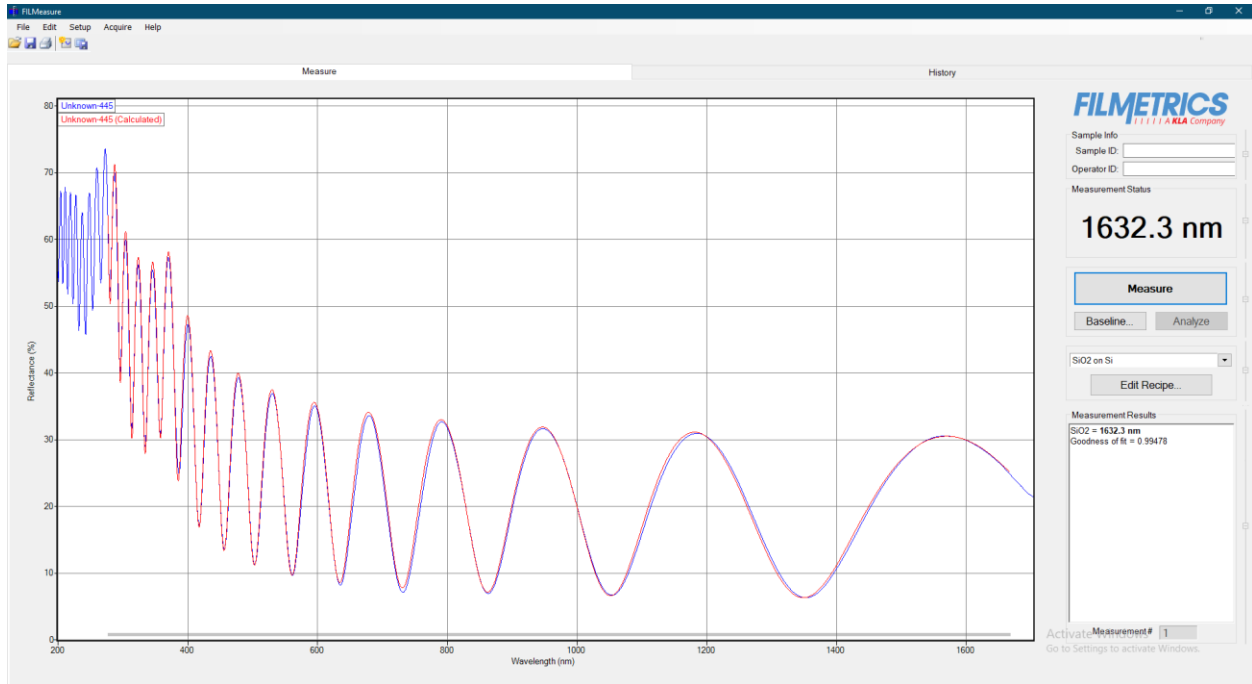

Figure 13. Measurement View of FILMeasure Software
16. After the measurement is complete, check the thickness value and goodness of fit under the measurement results shown in Figure 13. For the SiO2 reference sample, make sure the thickness is approximately 1632.3 nm.